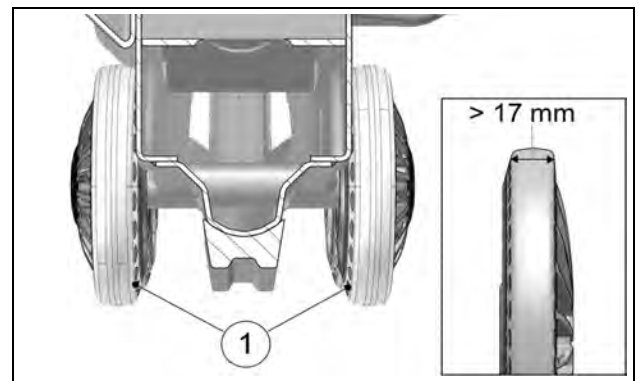
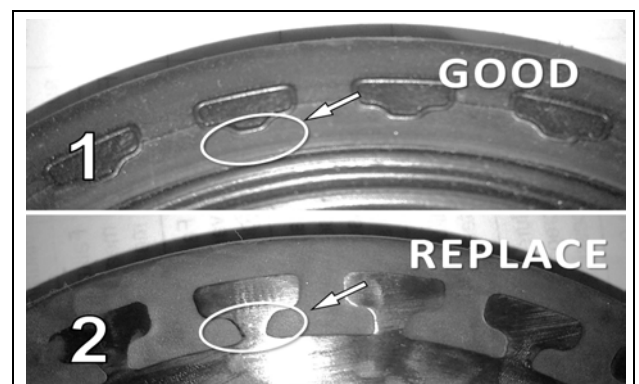

Figure 37
Figure 38
Verify wear on interior guidance strip (1) of 134-mm wheels. If internal plastic structure is visible (Fig. 38-2), rubber coating is worn away and wheel must be replaced. Replace wheels also if rolling band narrows to a width of 17 mm or less (22 mm when new). An excessively worn wheel will not offer enough support for track guidance. Figure 37 and Figure 38.